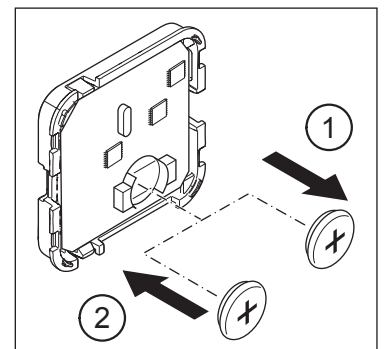

Fig. 5: Changing the battery
- ▶ Remove the discharged battery (item 1 in Fig. 5) from the electronic unit.
- ▶ Insert the new battery (item 2 in Fig. 5) into the electronic unit. The Status LED (item 5 in Fig. 1) on the wireless pushbutton switch flashes orange once.